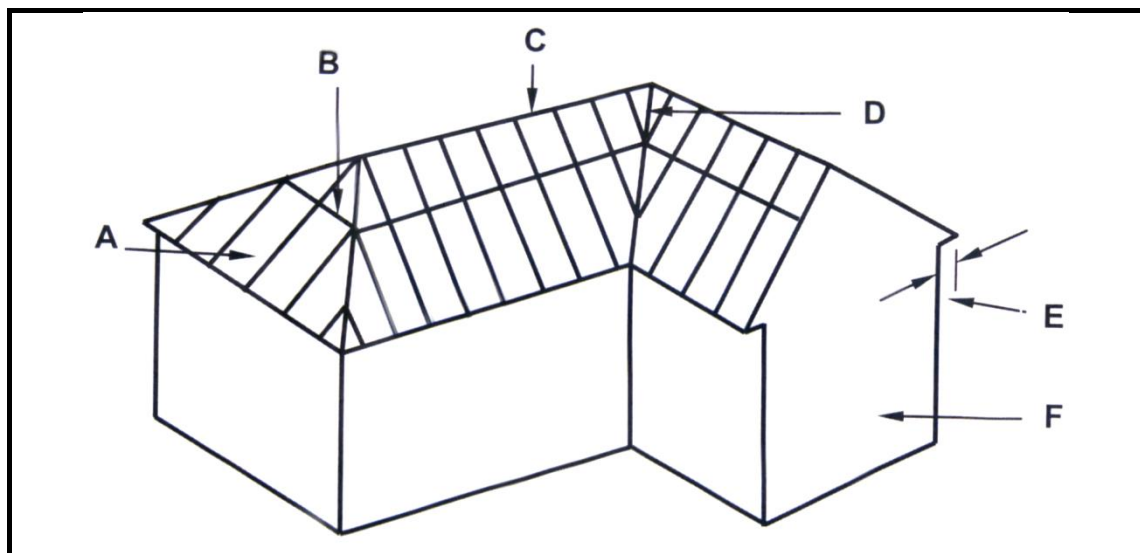

FIGURE 4.9
- 4.9 FIGURE 4.9 below shows a pictorial view of a roof with a hipped end and a gable end with valley. The roof will be covered with corrugated iron sheeting. Study FIGURE 4.9 and answer the questions that follow.